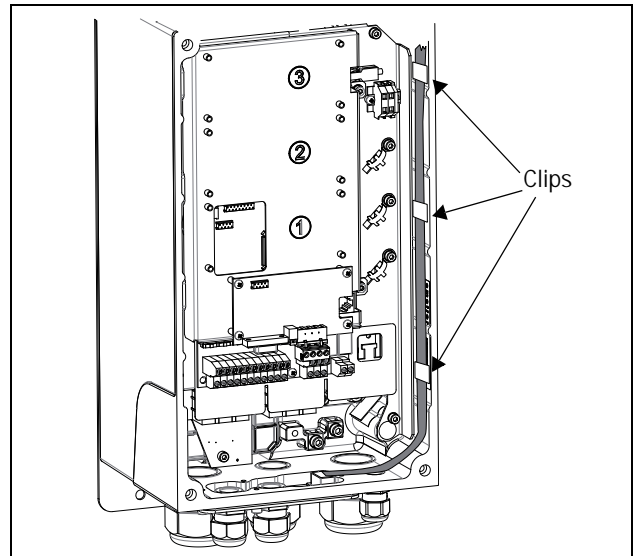
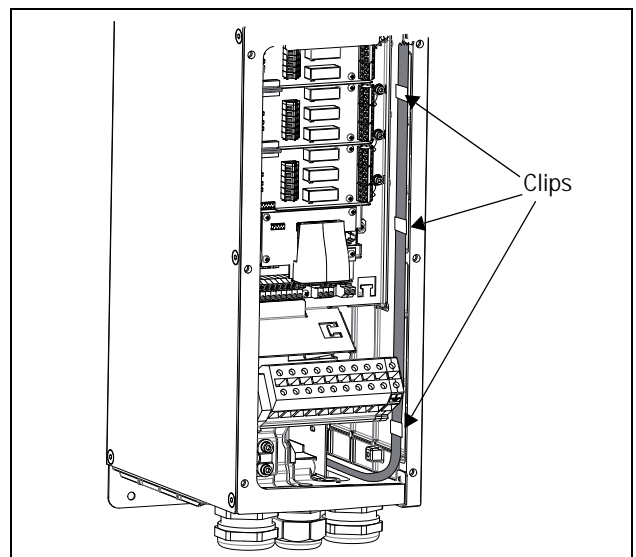
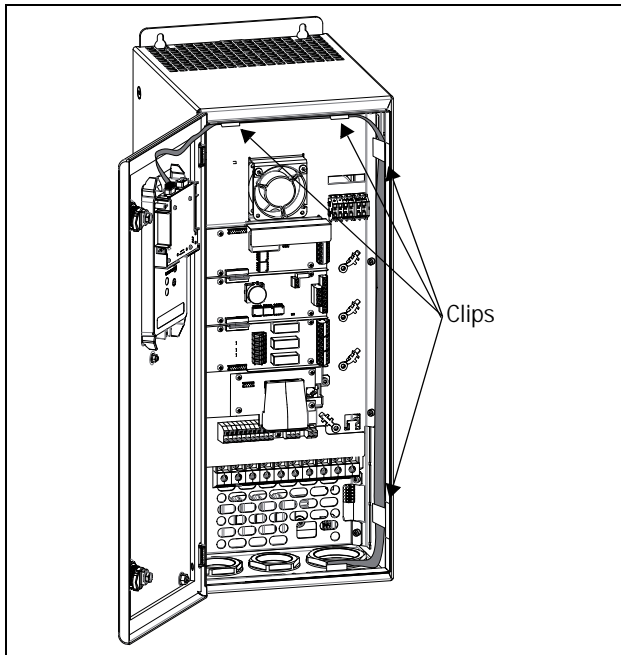

Fig. 5 How to mount the ribbon cable and secure it with the clips on size B
Fig. 6 How to mount the ribbon cable and secure it with the clips on size C
Fig. 7 How to mount the ribbon cable and secure it with the clips on size D.
7. Place the ribbon cable along the side of the AC drive. Put the ribbon cable clips along the inner side of the inverter, see Fig. 5, Fig. 6, Fig. 7 or Fig. 8.